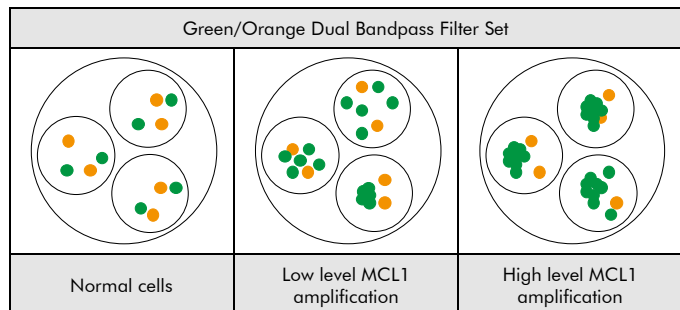

Fig. 2: Expected results in normal and aberrant nuclei
**Normal situation:** In interphases of normal cells or cells without an amplification involving the MCL1 gene region, two green and two orange signals appear (see Fig. 2).
**Aberrant situation:** In a cell with amplification of the MCL1 gene locus, multiple copies of the green signal or green signal clusters will be observed (see Fig. 2).